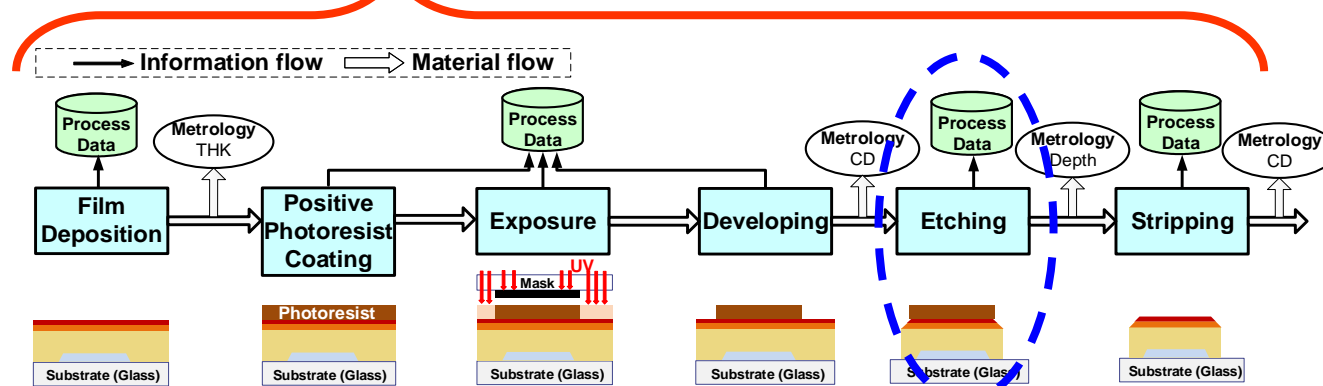

Fig. 2. PEP flow of the semiconductor layer.
- The TFT process consists of five layers: gate, semiconductor, data, protection, and indium tin oxide (ITO) layers. Each layer includes the so-called photo engraving processes (PEP) as shown in Fig. 2.